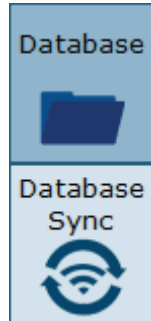

Figure 44: Database Merge Options.
A merge can be performed through either a one-way (from a database archive) or a two-way (from another local or remote system) operation. The method chosen will depend upon the office's setup; typically, if two or more Bertec® computers are connected via a local area network, the two-way operation should be used. The Database Configuration page is used for one-way merging; to access the two-way merging feature, click on the database sync option on the bottom left of the screen. Figure 44 shows where this option is located.
1. From the Database Configuration page, click on the Database Sync option (located on the bottom left of the screen). Refer to Figure 44 on page 33.